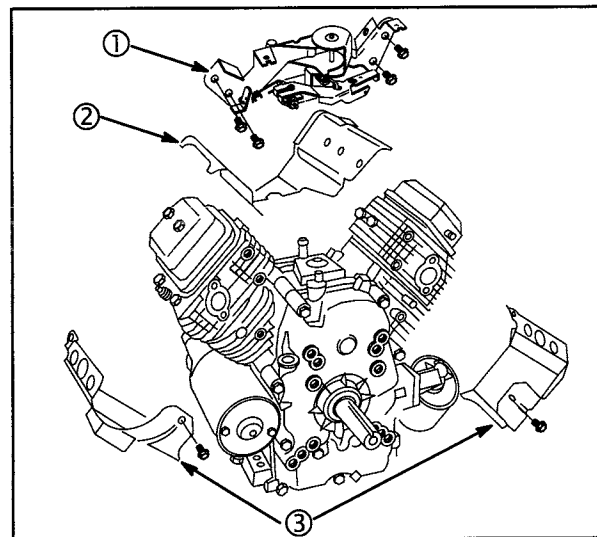

**Fig. 11**
1. Remove two screws and choke control bracket (5), **Fig. 11**.
2. Disconnect choke link (1) from carburetor.
4. Disconnect governor link and spring (4) from retainer (3) and throttle lever (2).